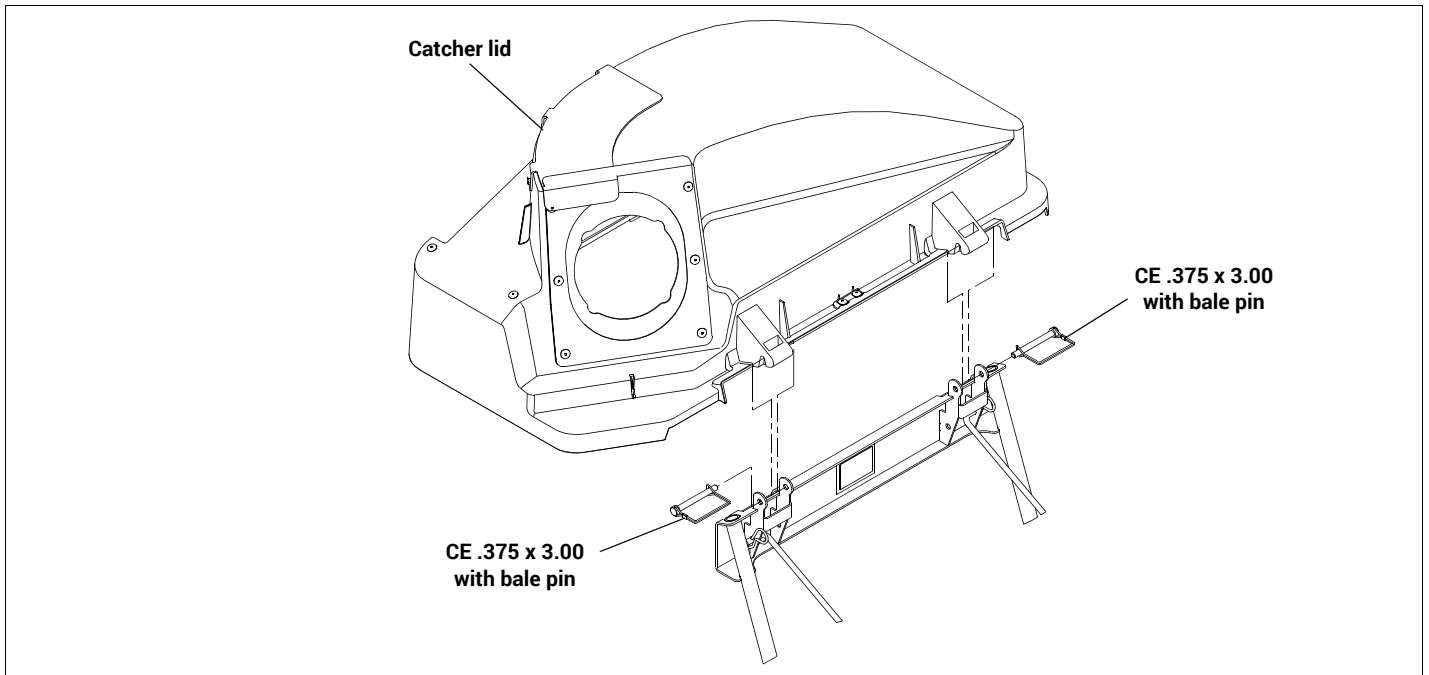

Figure 3-11
13. Attach the catcher lid to the catcher frame using the CE .375 x 3.00 with bale pins. Close the catcher lid. Figure 3-11